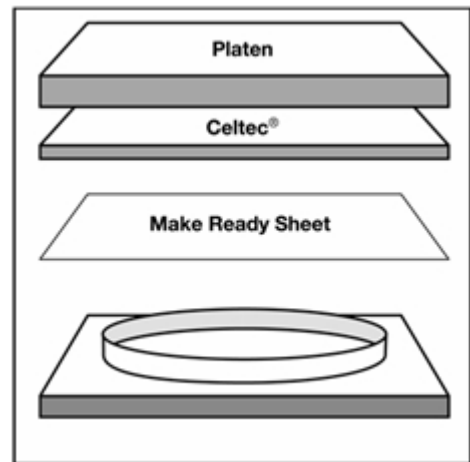

Figure 1h
5. After the kiss cut, transfer the make ready sheet from the top of the cutting plate to beneath the cutting plate, taking care that it is placed in the identical position in the press. Keeping the paper in the press will ensure that the exact knife depth required to cut the Celtec cleanly, as established in Step 4 with the paper in place, is maintained (Figure 1h).